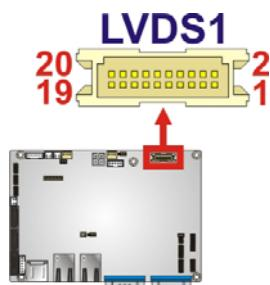

Figure 3-8: LVDS Connector Location
**CN Location:** See **Figure 3-8**